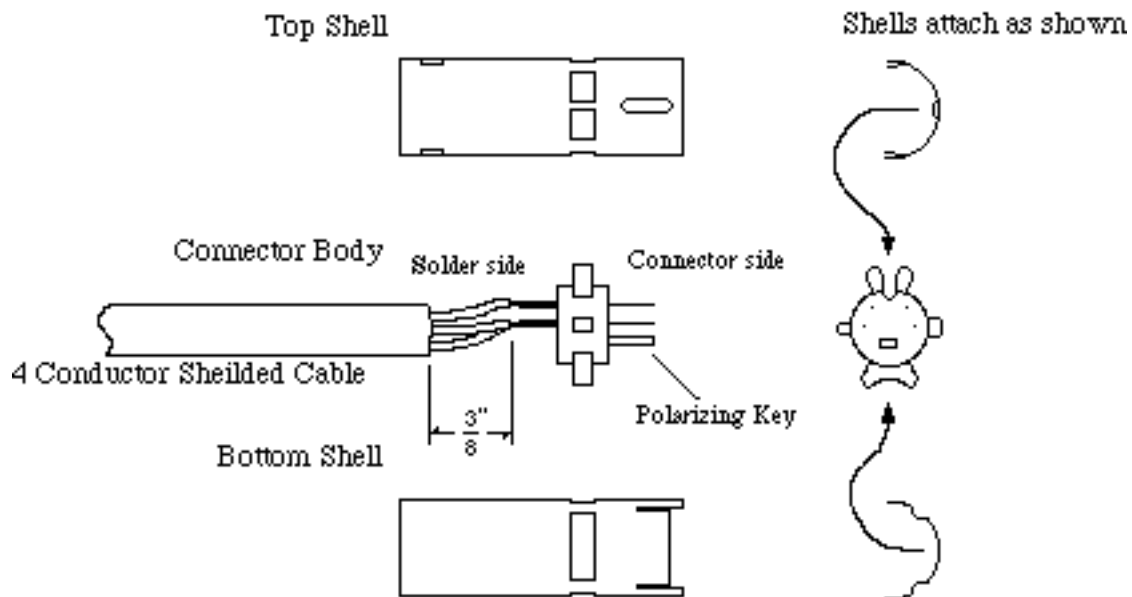
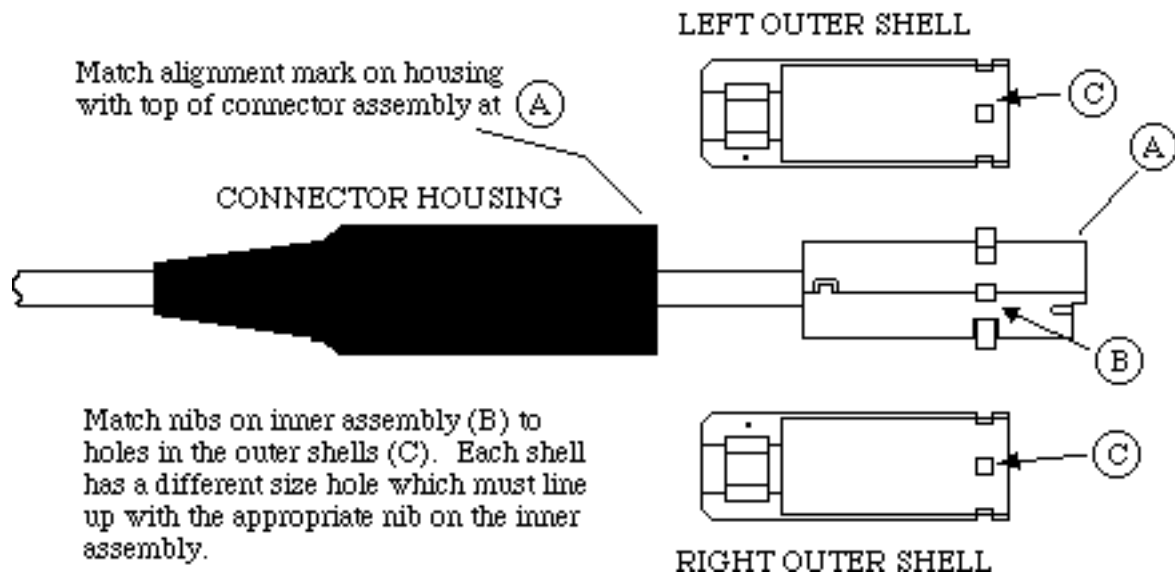

Figure 11. Assembly details of the inner portion of a 4 pin mini-DIN male connector. The details for the 6 pin mini-DIN are similar except for the pin pattern.
Figure 12. Assembly details of the outer portion of the mini-DIN male connector. The connector housing slides over the completed assembly.
There are two steps to assembling the mini-DIN connectors: the inner assembly and the outer assembly. The inner assembly involves cable preparation and connection and figure 11 illustrates the steps involved. First, prepare the cable (preferably shielded) by exposing 3/8" of the conductors as shown. Next, place the outer hood over the cable (see figure 12) and attach the wires to the contact assembly. Be sure to note the color code of each connection for later reference. Next, place a small piece of electrical tape around the soldered connections -- one wrap is sufficient, too much tape will prevent the top and bottom shells from mating properly.
Place the top and bottom shells around the contact assembly and then do the same with the left and right shells (as shown in figure 12). Be sure to properly orient the left and right shells as shown or they will not mate properly. Finally, push the connector housing over
the outer shells until it is flush with the inner shells at location (A) in figure 12. Be sure to hold the outer shells in place until the connector housing is pressed into place. Once the assembly is complete, the connector is ready to install -- the alignment mark on the connector housing should point "up" when inserting into the female mini-DIN connectors.